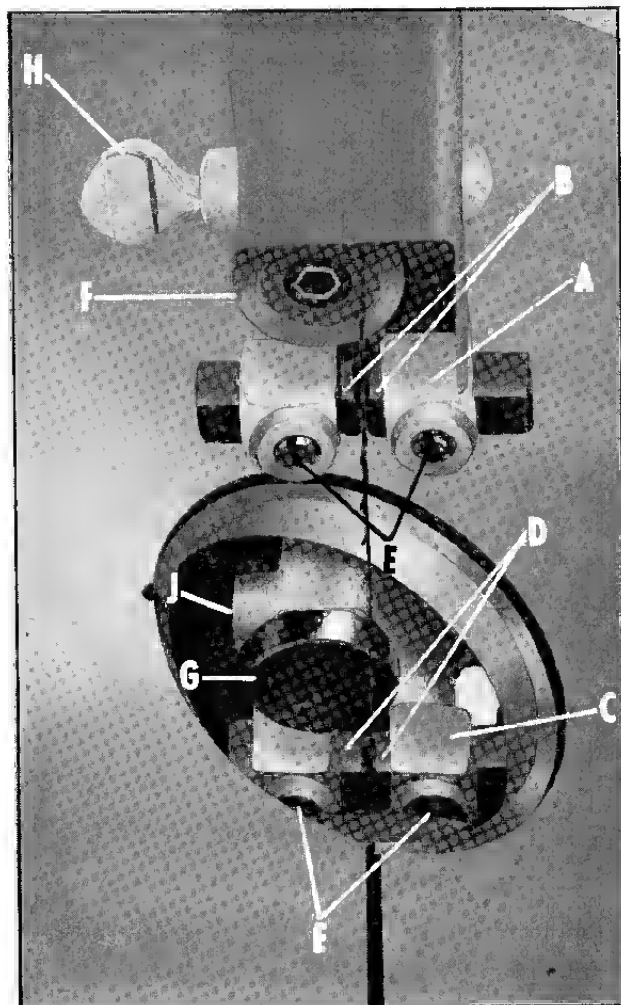

Fig. 19
1. The upper bracket (A) Fig. 19, is held to the underneath of the guide post by a cap screw. Loosen the cap screw and move the guide bracket (A) in or out until the front edge of the guides (B) are just behind the "gullets" (bottom of saw teeth).
2. The lower bracket (C) Fig. 19, is mounted directly on the base casting by a square head bolt. Loosen the bolt and move the guide bracket (C) in or out until the front edge of the guides (D) are just behind the "gullets" (bottom of the saw teeth).
3. The guides (B) and (D) Fig. 19, are held in the guide brackets with set screws (E). Loosen set screws (E) and adjust guides as close as possible to the side of the blade being careful not to pinch the blade.
The support bearings (F) and (G) Fig. 19 prevent the blade from being pushed too far to the back which could damage the set in the saw teeth. The support bearings (F) and (G) should be set about 1/64" behind the blade, as follows:
1. Loosen thumb screw (H) Fig. 19 and move upper support bearing (F) 1/64" behind the back edge of the blade and tighten thumb screw (H).
2. Loosen set screw (J) and move lower support bearing (G) 1/64" behind the back edge of the blade and tighten set screw (J).